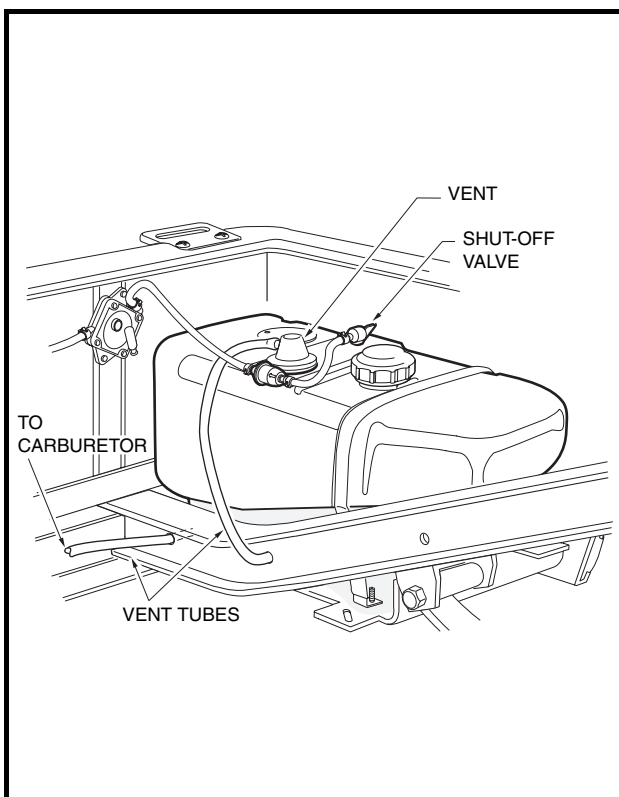

Figure 10-4 Fuel Tank
- If the vehicle has an all-weather enclosure installed, the fuel tank must be properly vented as shown (Figure 10-4, Page 10-6).
2. The fuel tank is located on the passenger side of the vehicle (**Figure 10-4, Page 10-6**). Remove fuel cap and fill the fuel tank with fresh, unleaded fuel only. **See preceding CAUTION and NOTE.**